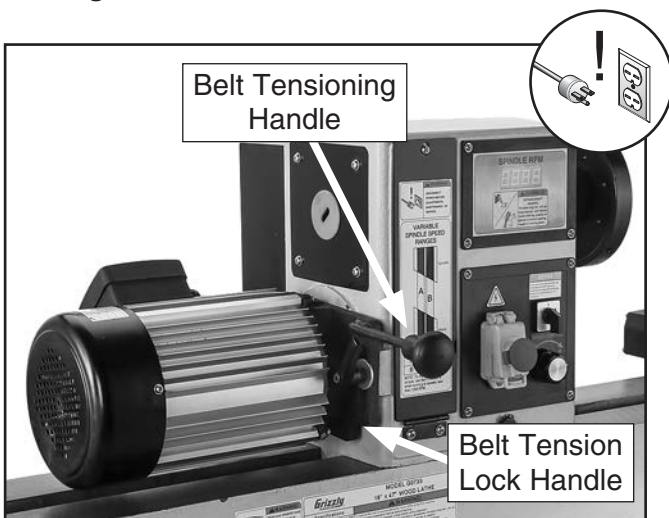

Figure 63. Belt tensioning handle and tension lock handle.
3. Loosen the belt tension lock handle shown in **Figure 63**.
4. Use the belt tensioning handle (see **Figure 63**) to lift the motor assembly all the way up, then re-tighten the motor tension lock handle—this will hold the motor in place while you change the belt position.